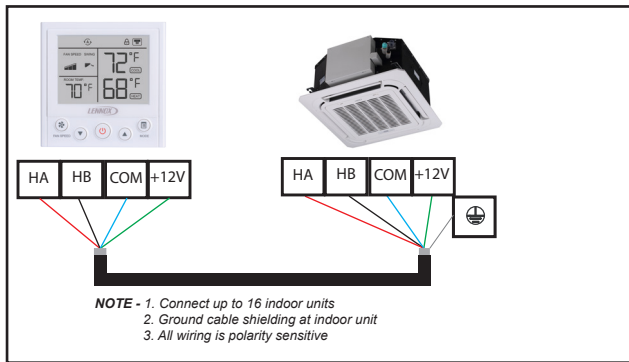

Figure 5. Wire to One Indoor Unit
7. Connect the controller to one or more indoor units, up to 16. Use 4-conductor shielded cable to connect to the first indoor unit. **NOTE - Wiring is polarity sensitive.** See Figure 5.